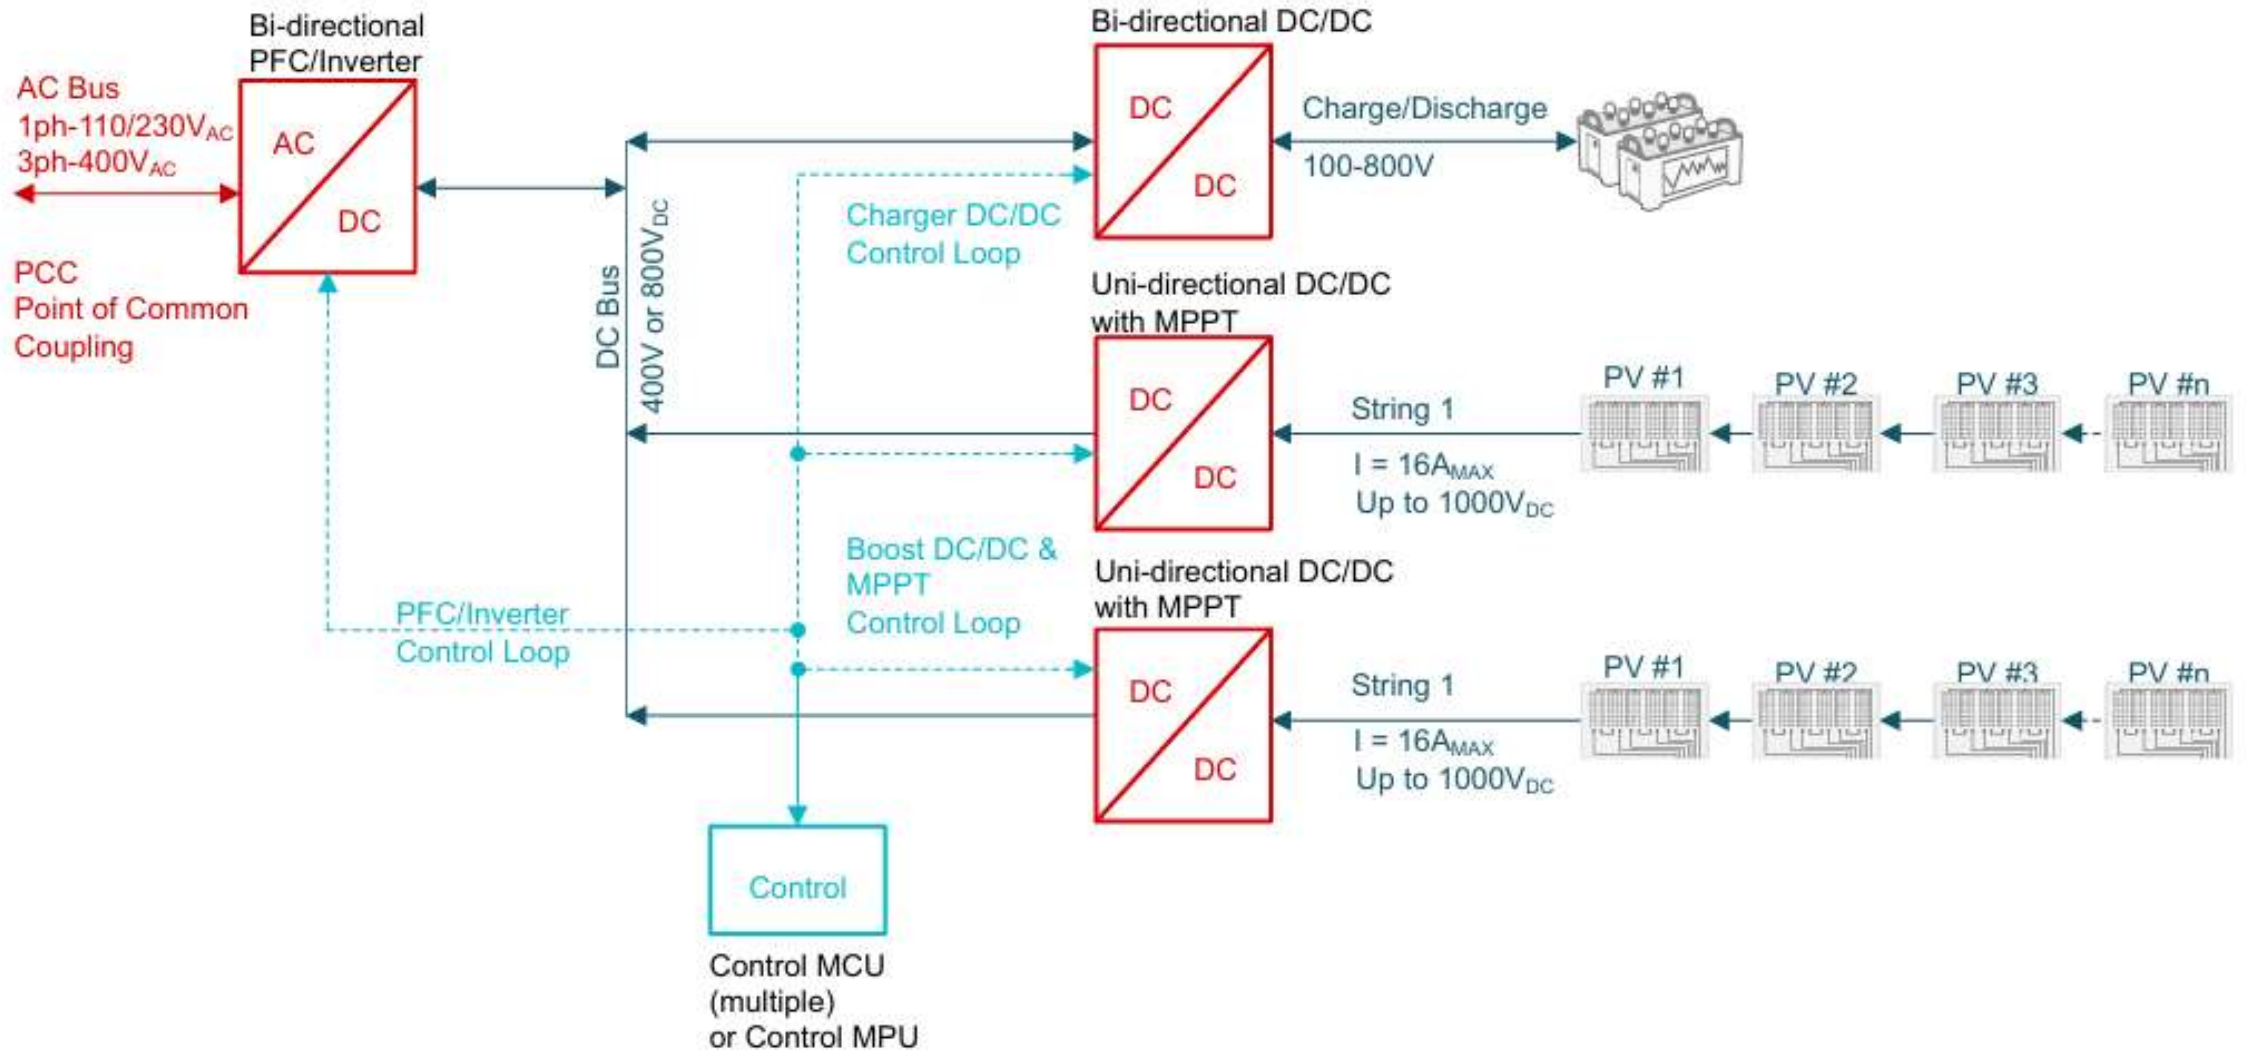

Figure 2-1. Solar String Inverter Block Diagram
- As Figure 2-1 illustrates, there are three major power blocks in the string inverter.